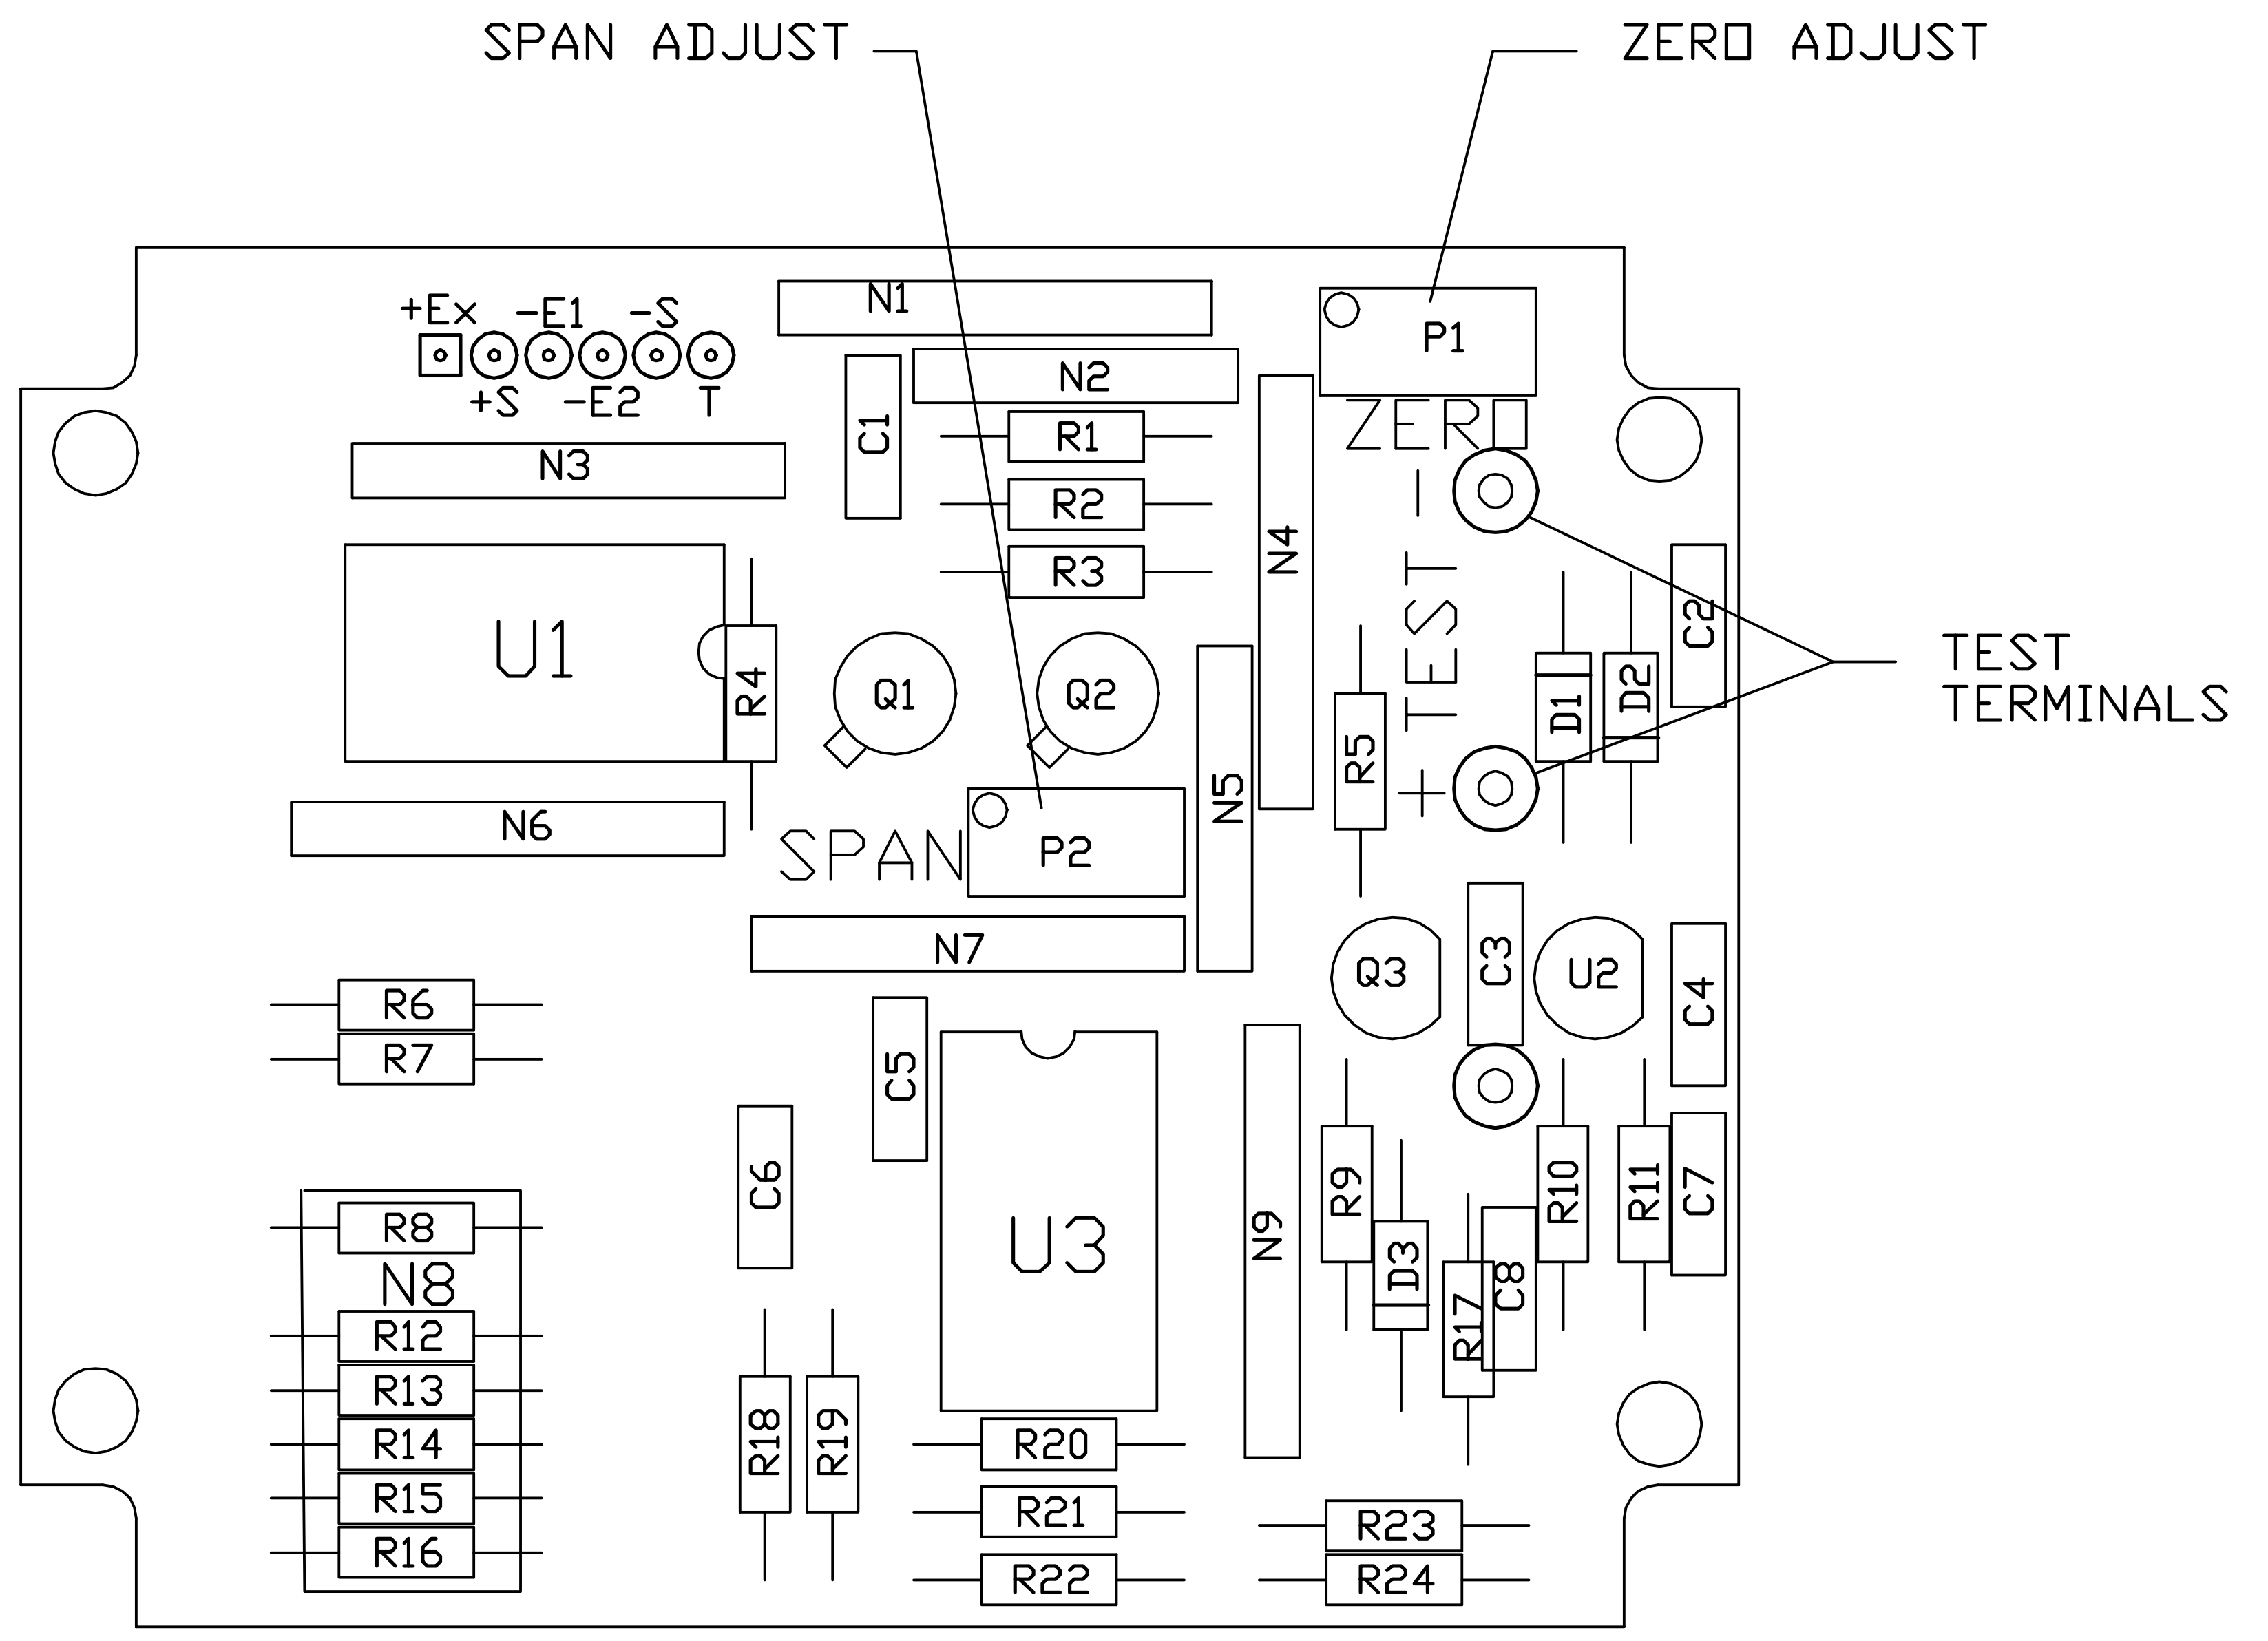

FIGURE 2-1. CONTROLS AND INDICATORS
1-3 EQUIPMENT DESCRIPTION. The Model 89P\_T\_\_\_\_\_2 pressure transducer (hereafter referred to as pressure transducer) is a piezoresistive strain gage transducer which accepts a fluid pressure input and produces an electrical DC current output that is proportional to the applied pressure. Input pressure ranges vary depending on the model of the transducer. Each pressure transducer consists of a piezoresistive strain gage sensor assembly, a main board assembly, a RFI board assembly and a housing assembly (Figure 6-3). Internal service points permit the adjustment of the ZERO and SPAN limits of the pressure transducer output. Two polarized TEST points on the main board assembly allow the pressure transducer output to be monitored during testing and calibration (Figure 2-1). Connection of the input pressure sources are in accordance with MS16142 utilizing 1/4 inch O.D. tubing. Connection to the pressure transducer's output is a MS3102R14S-5P and MS3106F14S-5S connector pair supplied with the pressure transducer in accordance with MIL-P-24212C(SH) located on one side of the pressure transducer housing assembly. A breather plug is located on the bottom side of the pressure transducer housing assembly.
2-2 CONTROLS AND INDICATORS. Operating control and indicators are shown in Figure 2-1.